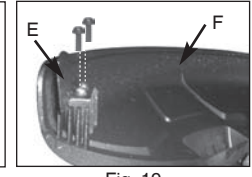

Fig. 19
1. Remove cutter knife (A) from cutting attachment guard (B) (Fig. 19).